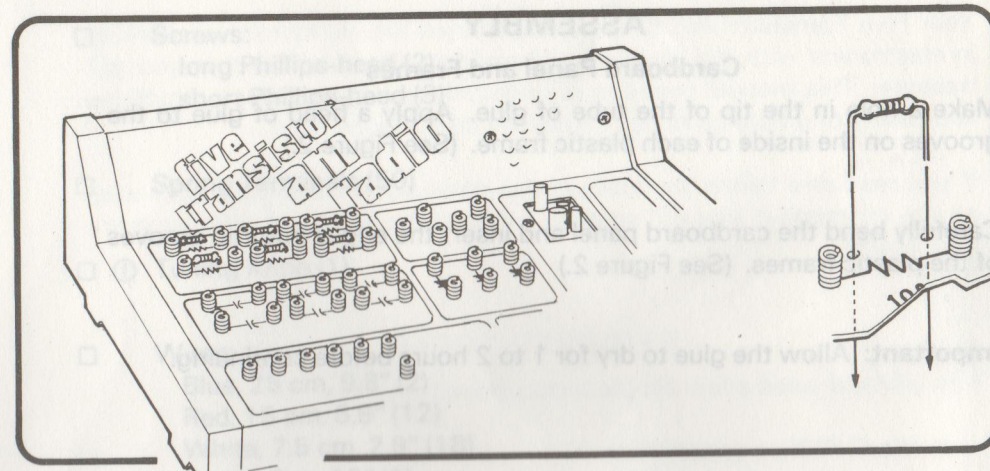

FIGURE 4
- ☐ Mount the resistor by bending its leads and inserting them, from the top of the cardboard panel, through the holes next to schematic symbol (See Figure 4.).